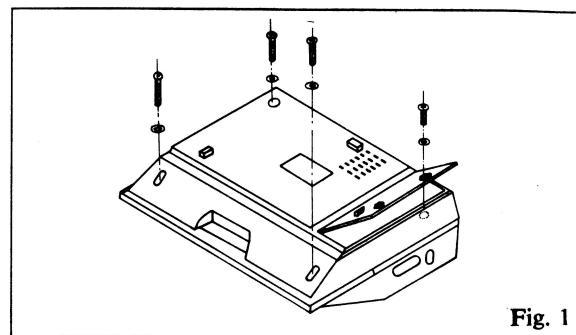

Fig. 1
2. Remove the four phillips-head screws holding the bottom lid (Fig.1)